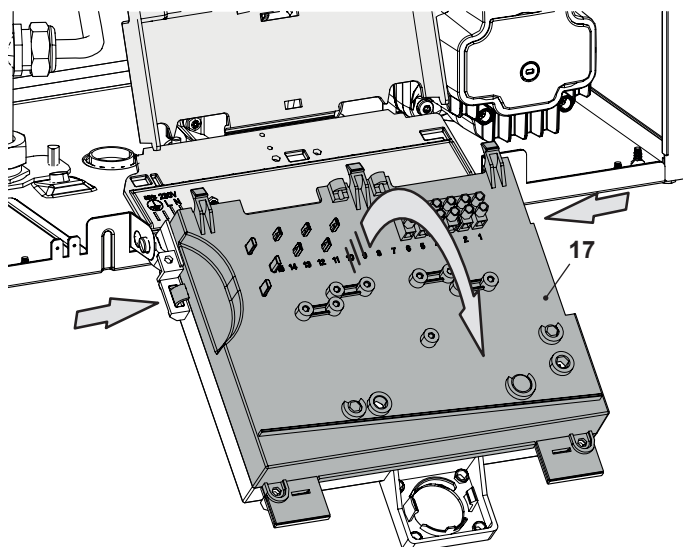

Figure 2.9
- 7 Free the hooks indicated and rotate the cover "17" (Figure 2.9).